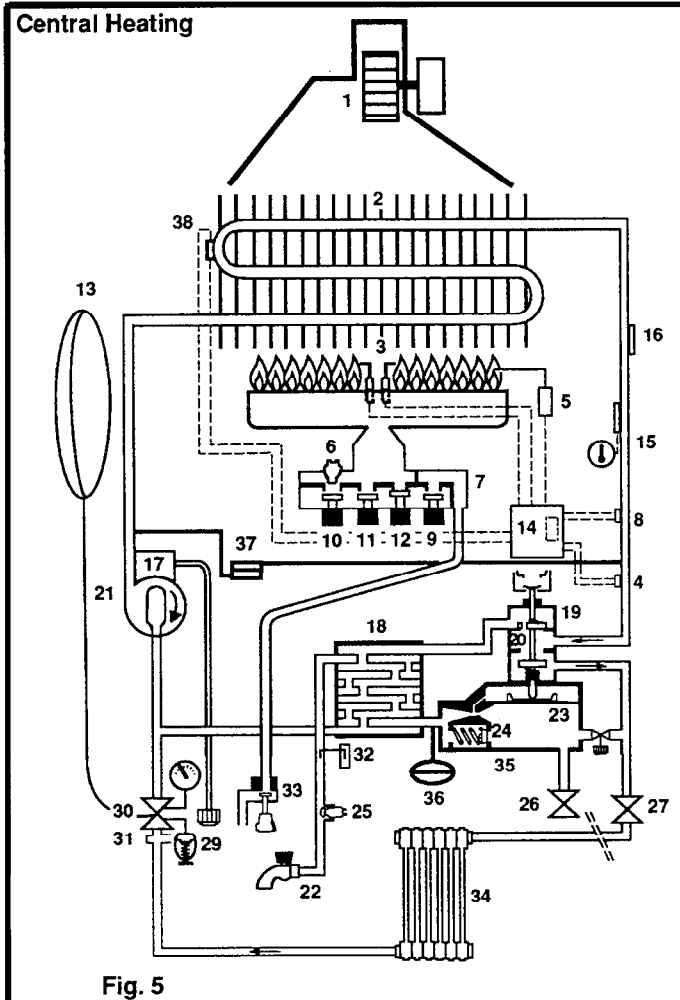

Fig. 5
1.6.1 Central Heating (see fig. 5)
1.6.4 Gas (see figs. 5 and 6)
Should the central heating water flow reduce to below 300 L/h (1,1 gal/min) the gas supply to the burner is turned on via the flow switch (No.31 - page 6), see figs 5 & 6 (37).